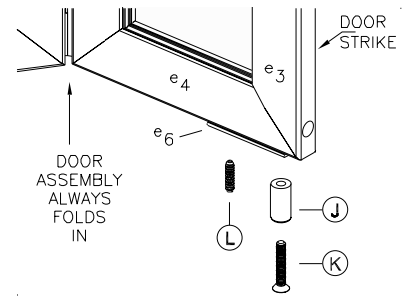

figure 4
6. Strike side was determined in step 5 . . . insert Strike Post (D) into the appropriate Wall Jamb (C), magnet should be facing toward exterior of enclosure, see exploded view - sheet 2.
7. Before proceeding with Door Assembly installation, note that the Door Assembly (E) must always fold in toward interior of shower enclosure (see explode view - sheet 2). Position Door Assembly on floor the way it will be installed on enclosure (remember, unit must fold into enclosure). Install Pivot Bushing (J), Pivot Bushing Screw (K) and Slide Piece Set Screw (L) onto appropriate Slide Piece (e6) as shown in figure 4.